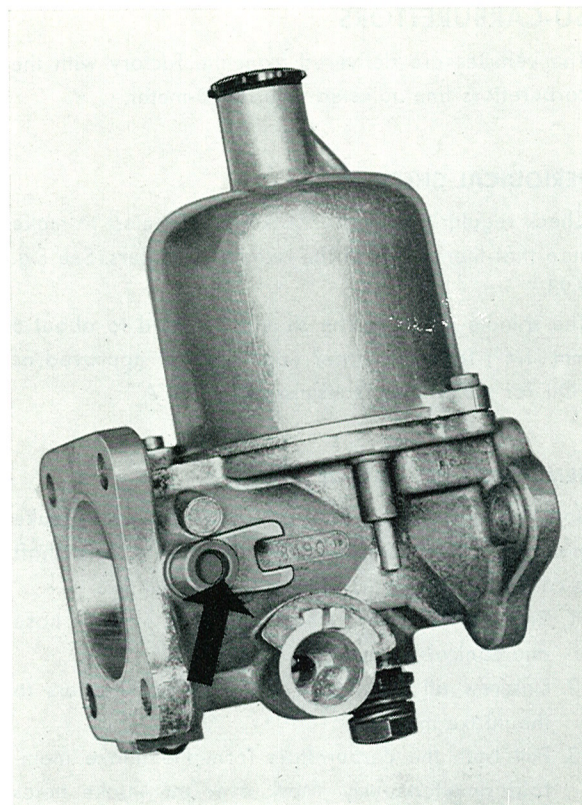

Fig. 2-110. Location of flange yoke
7. Fit the flange yoke as shown in Fig. 2-110 (with the throttle fully closed and the throttle stop screw out). Make sure that there is a clearance of 1.5 mm (0.06") between the flange yoke and the throttle housing. With the flange in position (see Fig. 2-110) and a 3.0 mm (approx. 1/8") drill, make a hole for the lock pin (the hole should be drilled at right angles to the longitudinal shaft of the carburettor when the throttle is closed) through the throttle spindle. Remove drillings, fit the flange yoke and the lock pin.